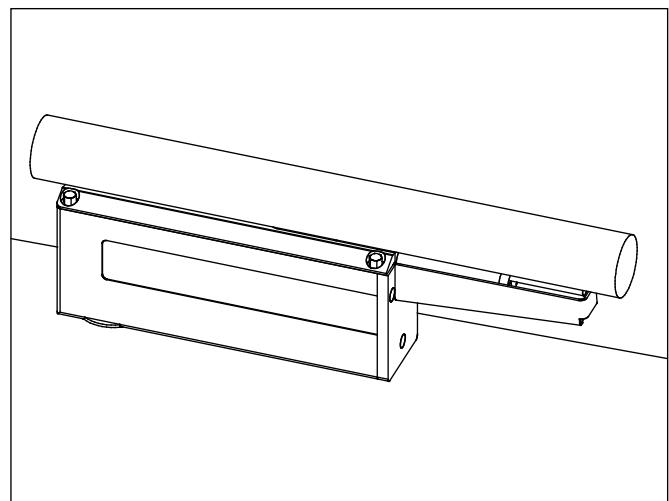

Fig. 9
- For measuring on long cylindrical testpieces with a diameter larger than 30 mm (1.181 in), the MarSurf GD 25 / GD 25 plus can be placed upside down such that the support prism serves as workholding device (see. Fig. 9). As the case may be, the back central support foot has to be removed.